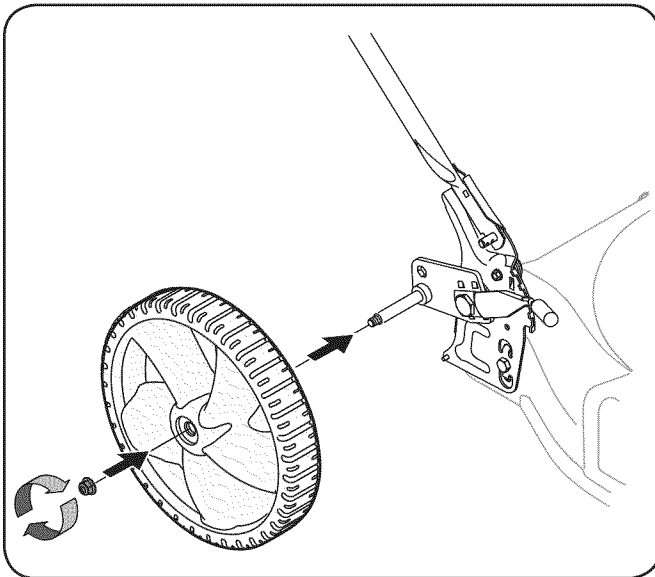

**Figure 3-3**
3. The rope guide is attached to the right side of the upper handle. See Fig. 3-3. Loosen the wing nut which secures the rope guide.